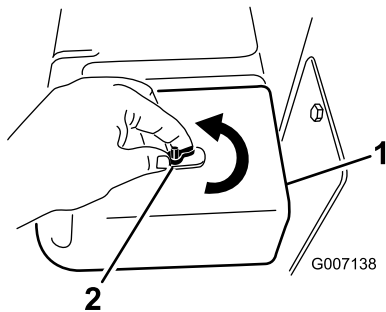

Figure 52
4. Remove the wingnut from the air cleaner cover and remove the cover (Figure 52).
3. Install the air cleaner cover and secure it with the wingnut (Figure 52).